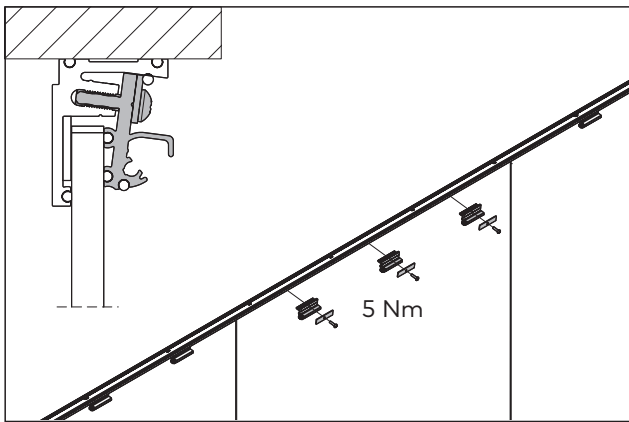

Fig. 7 Attaching the overpanel
5. Attach the overpanel with three standard clamping pieces per meter (Fig. 7).